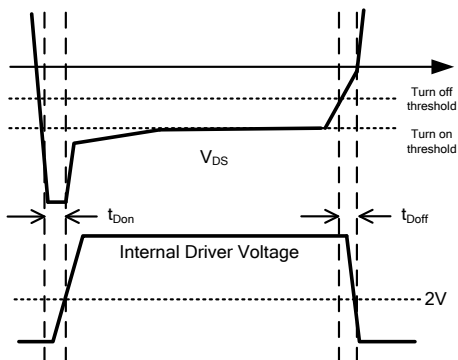

Figure 2: Turn-on and Turn-off Delay
1. Turn-on phase: The switch current first flows through the body diode of the integrate MOSFET, which generates a negative V_{DS} across it (less than -500mV). The voltage is much smaller than the turn-on threshold of the control circuitry (-65mV), which turns on the integrated MOSFET after a t_{Don} (100ns) turn-on delay (see Figure 2).
3. Turn-off phase: When V_{DS} rises to trigger the turn-off threshold ($-30mV$), the driver voltage of the switch is pulled low after t_{Doff} (30ns) of turn-off delay time by the control circuitry (see Figure 2). Similar with the turn-on phase, a 200ns blanking time is added after the switch turns off to avoid an erroneous trigger.